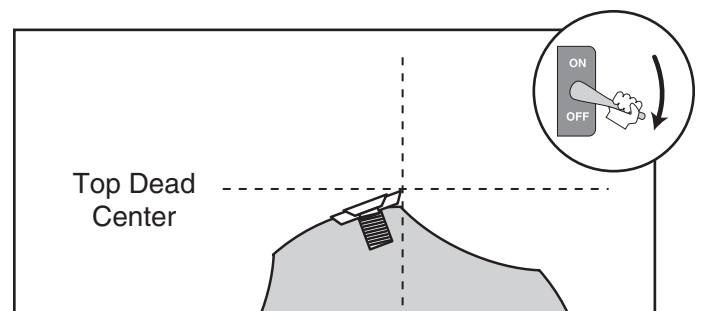

Figure 8. Cutterhead insert at top-dead-center.
18. Place a straightedge on the outfeed table so it extends over the cutterhead, and rotate the cutterhead pulley until one of the carbide inserts is at top-dead-center (TDC), as shown in **Figures 8 & 9**.